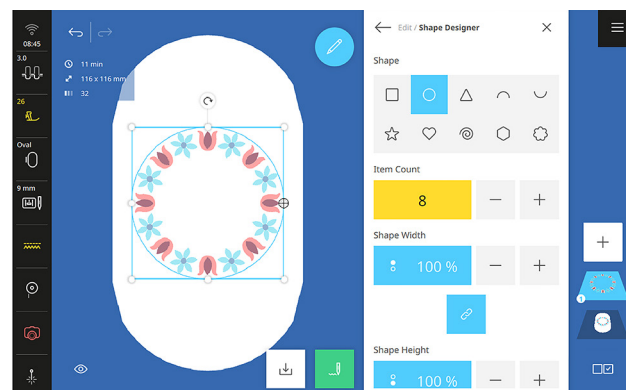

Fig. 32
6. Choose the Circle Shape (Fig. 32).
7. Set Item Count to 8 and Justification to Inside (Fig. 32).